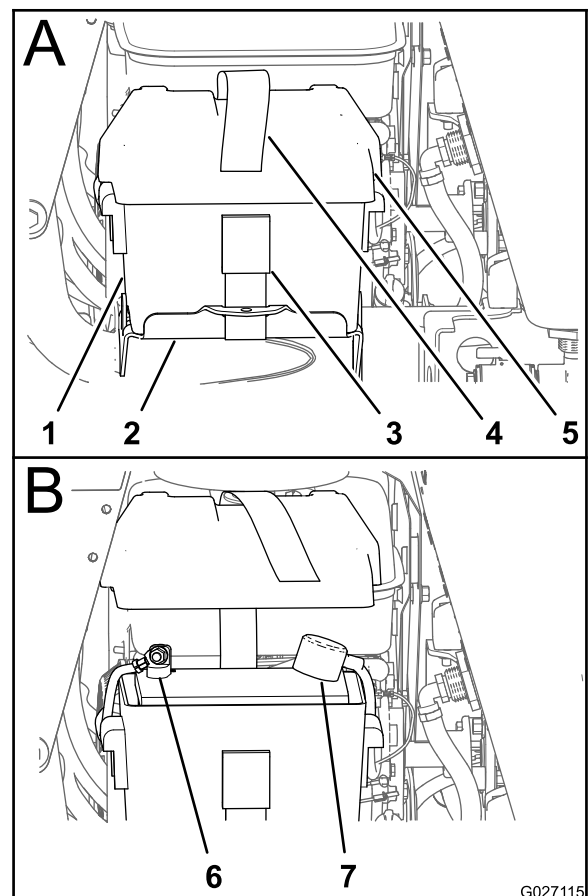

Figure 80
2. Remove the free end of the battery strap from the buckle and remove the battery cover from the battery box (Figure 80).
- If the positive cable is also disconnected, connect the **positive (red) cable** to the positive battery terminal and slip terminal cover over the positive terminal (Figure 80).
- Align the battery cover to the battery box and secure the cover and box to the battery tray with the battery strap (Figure 80).
2. Remove the battery cover (Figure 80); refer to step 2 of Checking the Battery Charge \(page 62\).
6. Align the battery cover to the battery box and secure the cover and box to the battery tray with the battery strap (Figure 80).